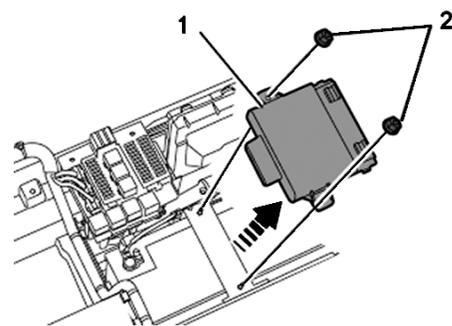

Fig. 2 DC/DC converter
5. Remove two fastening nuts (2), and remove DC/DC converter (1), **Fig. 2**.
9. Install DC/DC converter (1) on holder, and secure it with two fastening screws (2), **Fig. 2**. **Torque** converter screws to 54 inch lbs.